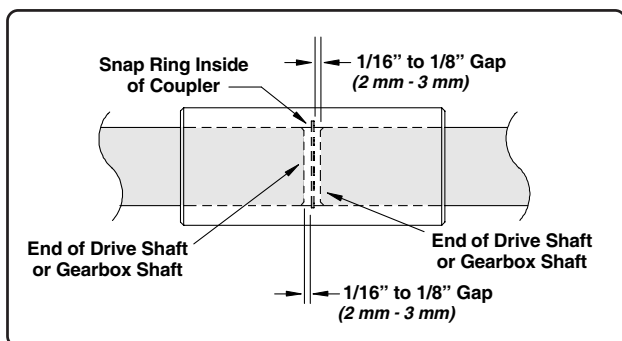

Fig. 28
Insert the 1/4" x 1 1/2" keys into the keyways on both shafts. Apply an anti-seize compound to the shaft ends and using the coupler, connect the shafts together (leave about a 1/16" to 1/8" (2 mm - 3 mm) space between the shafts to allow for expansion as shown in Fig. 28).
1. Position the PTO gearbox mount plate and half-bands at the inlet end of the auger close to the end of the drive shaft. Loosely attach the mount plate and half-bands using eight (8) 3/8" x 1 3/4" bolts and nylon locknuts (See illustration below).
2. Set the gearbox on top of the mount plate and secure using four (4) 1/2" x 1" bolts and lock washers.
4. Apply an anti-seize compound to the gearbox shaft. Insert the 1/4" sq. x 1 1/2" key into the end of the gearbox shaft and slide the gearbox and mount assembly towards the drive shaft, inserting the gearbox shaft into the coupler (leave a 1/16" to 1/8" (2 mm - 3 mm) gap between the end of the shafts and the snap ring in the coupler (See Fig. 28).